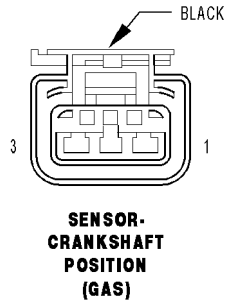

Fig. 1 TERMINAL END VIEW OF CONNECTOR
- Install the new **GOLD** terminal end into the new CKP connector in cavity #1 (Fig. 1).